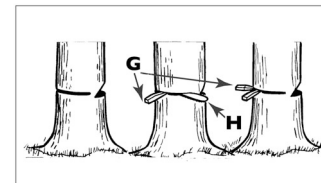

Fig. 10C
- Use wooden or plastic wedges (G) to prevent binding the bar or chain (H) in the cut. Wedges also control felling (Fig. 10C).